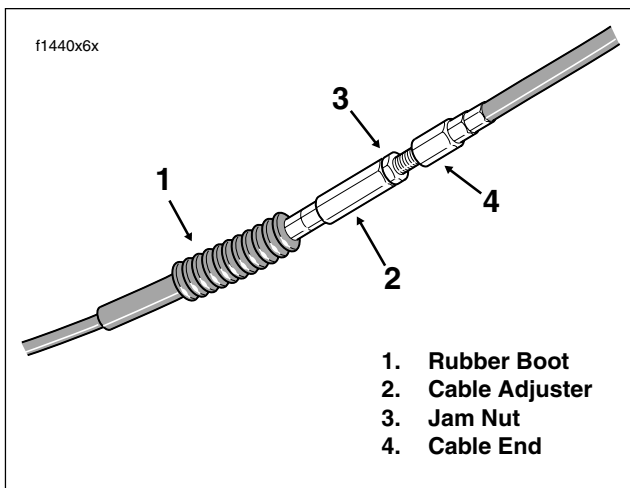

Figure 1-8. Clutch Cable Adjuster Mechanism
3. See Figure 1-8. Slide rubber boot off cable adjuster. Holding cable adjuster with 1/2 inch wrench, loosen jam nut using a 9/16 inch wrench. Back jam nut away from cable adjuster. Move adjuster play toward jam nut to introduce a large amount of free play at hand lever.